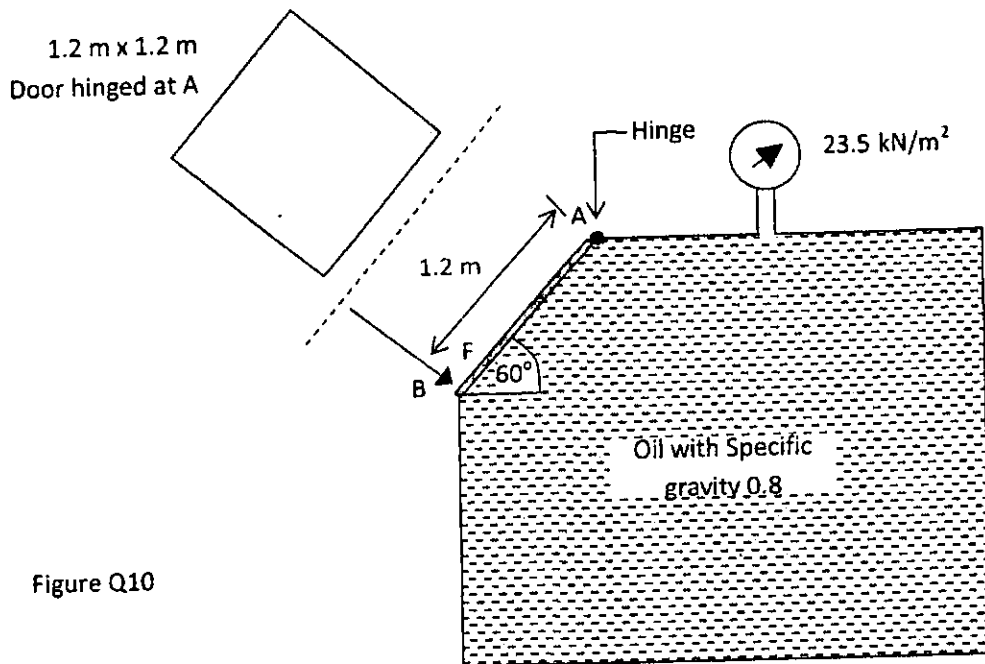

Figure Q10
- (b) The tank shown in Figure Q10 has a square opening  $1.2 \text{ m} \times 1.2 \text{ m}$ , which is closed by a square door of same size. The door edge shown in the elevation has an inclination of  $60^\circ$  to the horizontal, while it is hinged to the tank along the edge A. The tank contains oil with specific gravity of 0.8 under a pressure and the gauge indicates a pressure of  $23.5 \text{ kN/m}^2$ . This condition is maintained by a force  $F$  applying perpendicular to the door along the edge B. Determine the following: